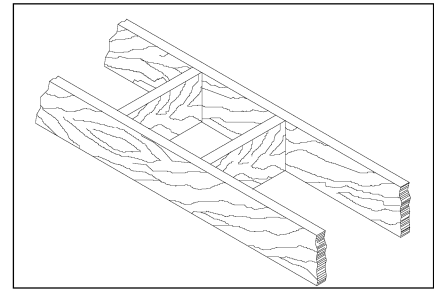

Figure 25
1. Cut and frame the holes in the ceiling, floor and roof where the chimney will pass (see figure 25). Use a plumb bob to line up the center of the holes. The sizes are indicated in table 1 for the floor and ceiling holes and table 2 (page 24) for the roof holes.